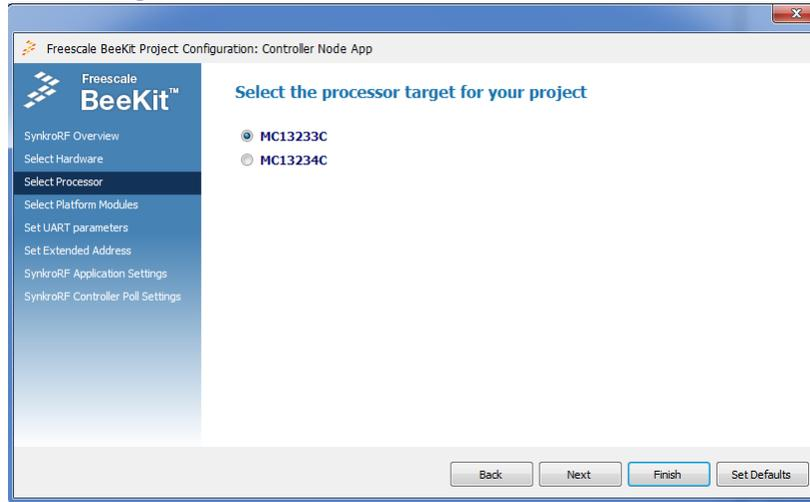
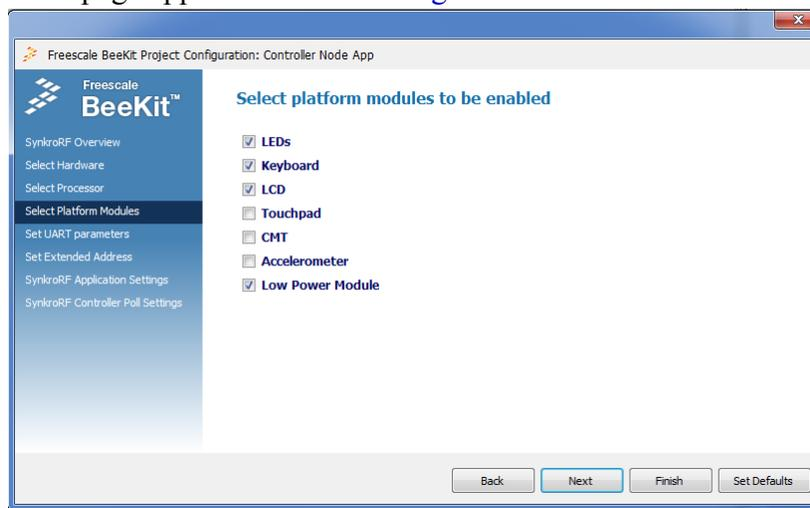

Figure 2-5. Select Processor Page
Figure 2-6. Select Platform Modules Page
- Click on the Next button. In case of MC1323x boards the select processor page will appear as shown in Figure 2-5. For the boards different than MC1323x boards The Platform Modules page appears as shown in Figure 2-6.
- Select the processor target for your project, in this case MC13233C. Click on the Next button. The Platform Modules page appears as shown in Figure 2-6